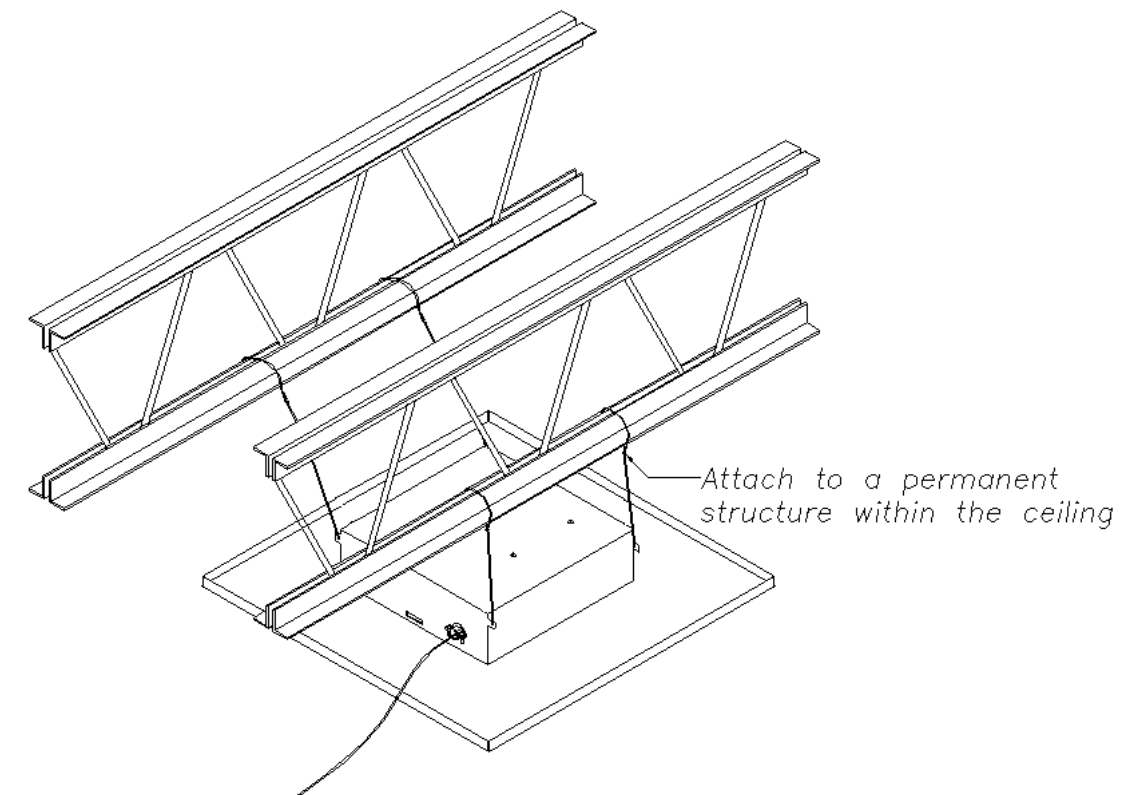

Figure 4
Step 5 – Use minimum 12-gauge support wire (included) to support the *access point enclosure* independently of the ceiling grid. Attach one end of the wire to the support wire tabs located along the edge of the back box and the other end to a permanent supporting structure within the ceiling such as a ceiling joist (Figure 4).